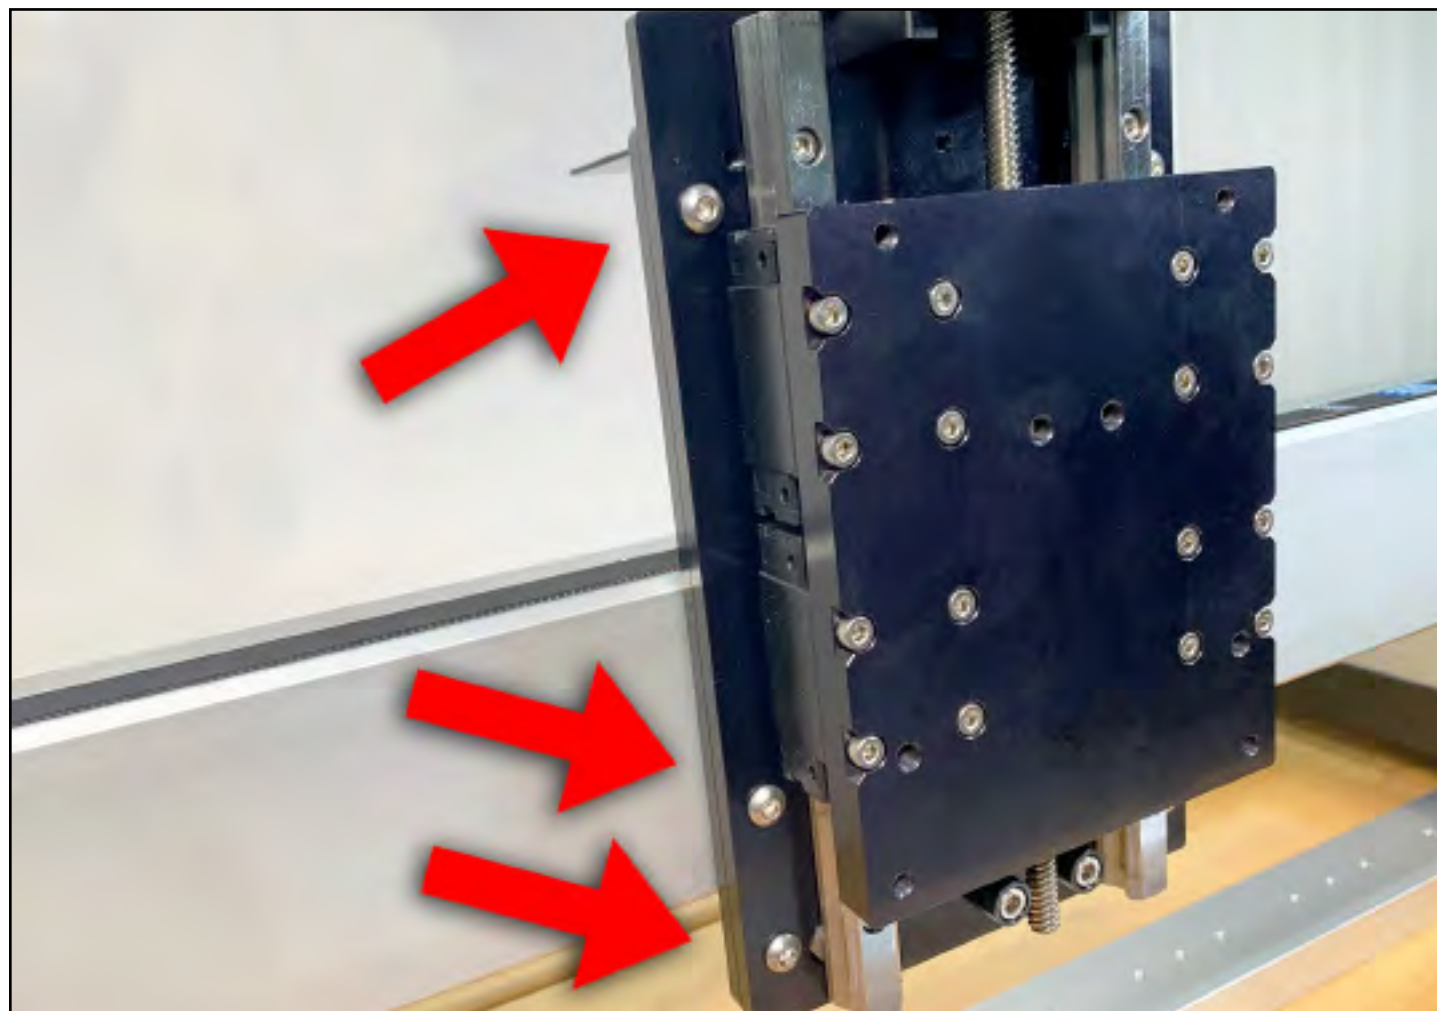

Figure 5-11
1. Slide the Z-Axis plate on the front of the X/Z assembly until it is centered on the linear rails and all six M6 holes on the front of the assembly are accessible. See **Fig. 5-11**.
2. Position the X/Z assembly over the FRONT of the X/Z carrier plate. See **Fig. 5-11**.
3. Use a 4mm hex key and six (6) M6×12mm BHCS to secure the X/Z assembly to the carrier plate. Fully tighten.